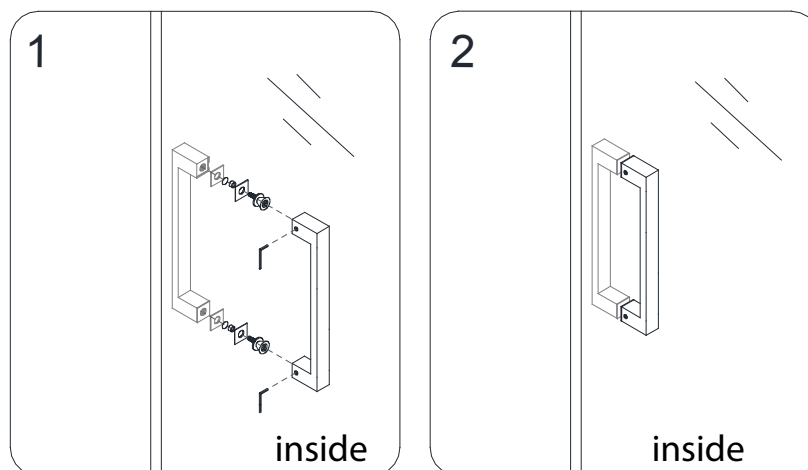

Fig 21
21. Install the **Handle (#04)** through the holes in the **Door Glass (#02)**. Be sure that the pvc gaskets and sleeves are in place. **(Fig 21)**